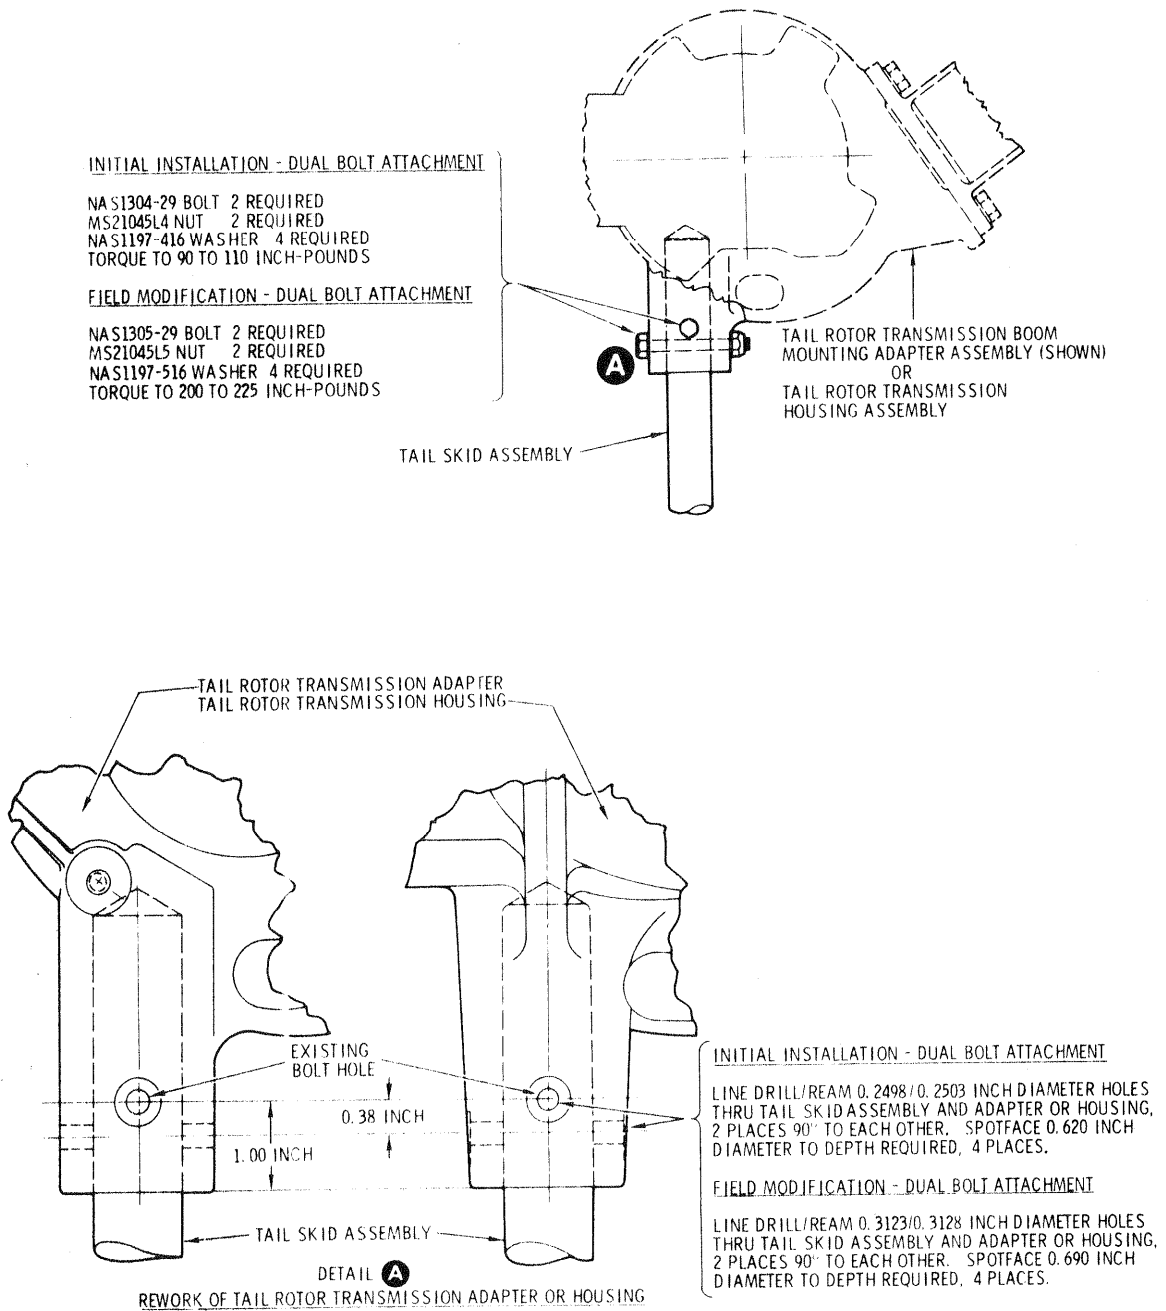

Figure 1. Field Installation and Modification - Dual Bolt Tail Skid Mounting Hardware
- a. With tail skid installed, line drill 0.2480 inch diameter hole through tail skid and tail rotor transmission adapter or housing below existing hardware at dimensions shown in Figure 1.